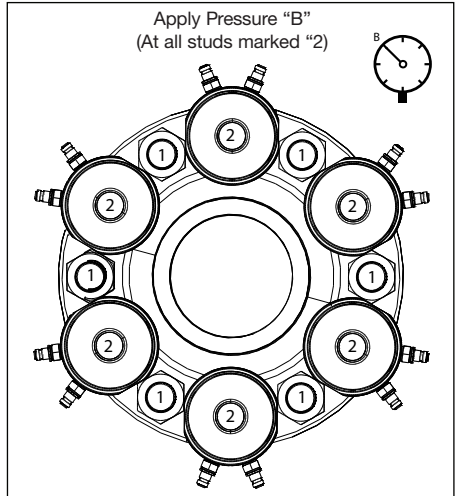

FIGURE 17, TENSIONER ARRANGEMENT, SECOND PASS - TYPICAL (50% TENSIONER COVERAGE)
6. Apply the 2nd pass hydraulic tool pressure as specified on the 'Subsea Bolt Tensioning Data Sheet' and turn down the pre-drilled hexagonal nuts within the AquaJack bridge using a tommy bar, firmly seating each nut against the flange surface. See Figure 17.